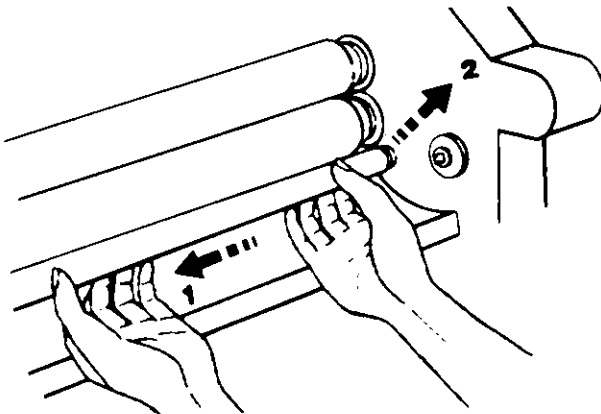

FIGURE 6
7. Remove feed table and bottom film guide (see figure 6).
5. Remove feed table and bottom film guide (see figure 6).